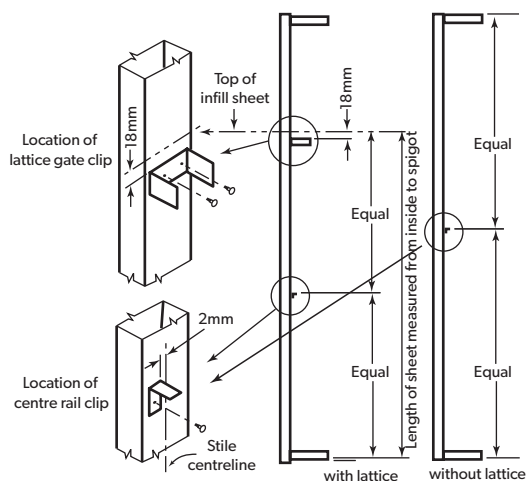

Figure 23.4
5. Notch the top leg of the lattice on both ends (Figure 23.4).
10. For gate with 'PLUS Option', drive an additional #10-16x16 screw into the two corners of the lower top rail passing through the lattice clip in alignment with Position A (Figure 23.4).
13. For extra wide gate with lattice additional screws are required (Figure 23.4).